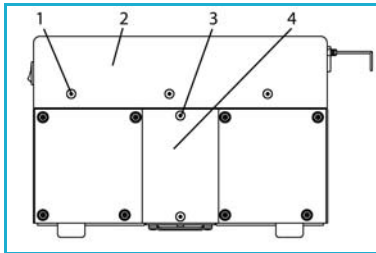

Fig. 8: Covering shroud and covers (N 940.5 APE-W)
1. Loosen the covering shroud's (2, fig. 8) three screws (1) on each of the pump's front and rear sides.
3. At the front and rear sides of the pump, loosen the two screws (3) for each of the two covers (4) and remove the covers.
1. Connect the mains-switch cable's plug and re-install the covering shroud (**2**, fig. 8).
2. Re-install the two cover plates (**4**, fig. 8).